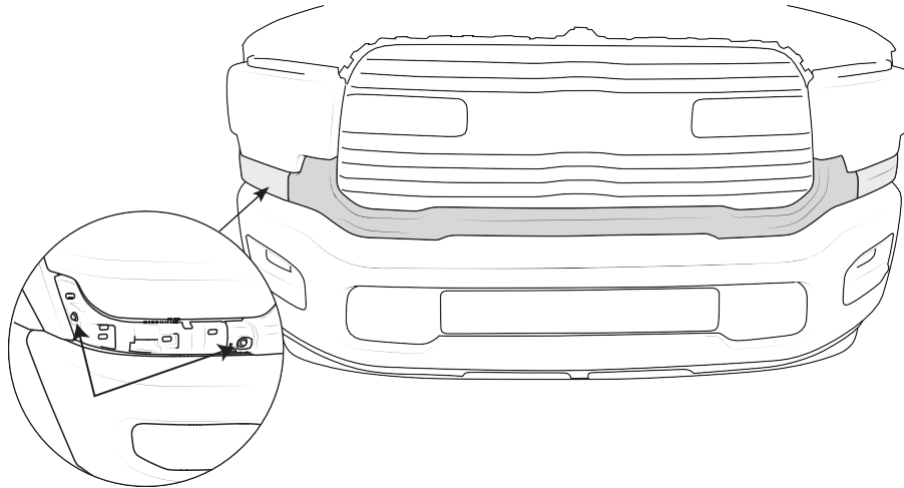

Figure 3
B. The center section has 7 bolts securing it to the grille (these will need to be loosened from below the vehicle but not fully removed) from underneath the vehicle, and 2 bolts below each headlamp (these need to be fully removed)(fig. 3).